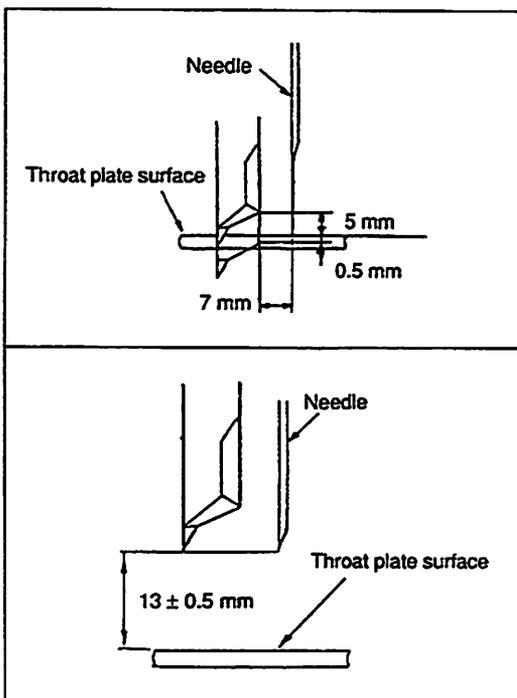

Fig. 92
4. Turn the handwheel by hand until the center knife reaches its highest position, and adjust the height of the center knife to obtain the relevant distances shown in Fig. 92.